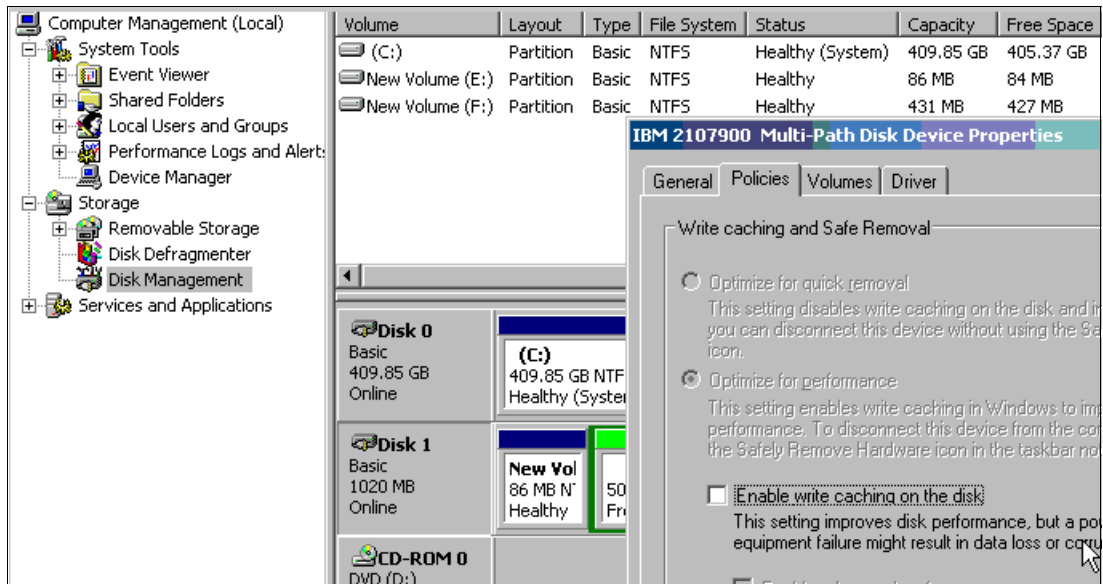

Figure 3-1 Shows how to disable the server cash write
**Tip:** During the SDD installation, the option “Cache on Disk” might be enabled, in which case the system will use the server’s cache. The DS8k already has cache enabled, therefore, it is not necessary to use the servers cache. You can disable this option by going to **disk manager** → **right-click the partition** → **Properties** → **Policies** → **uncheck “Enable write caching on the Disk”**. See Figure 3-1.